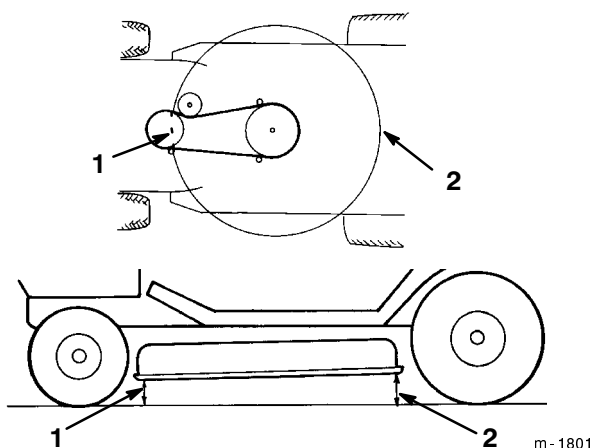

Figure 46
5. Check the front-to-rear blade slope by measuring between the bottom of the mower (front center and rear center) and the flat surface (Fig. 46). If the front of the mower is more than 5/8" (16 mm) lower than the rear of the mower, an adjustment is required; refer to steps 6–10.